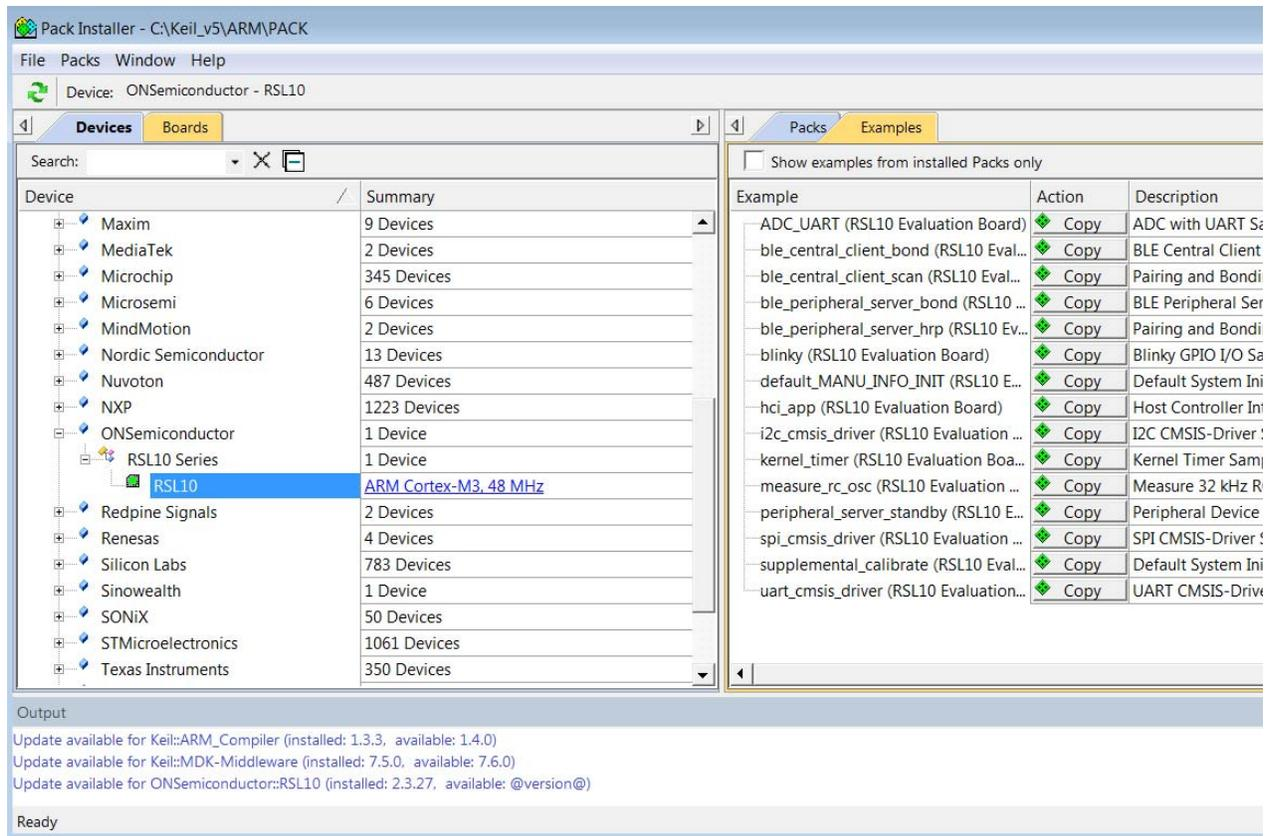

Figure 19. Pack Installer after RSL10 CMSIS-Pack is Installed in the Keil μ Vision IDE
- The RSL10 CMSIS-Pack now appears in the list of installed packs. In the **Devices** tab, if you expand **All Devices > ON Semiconductor > RSL10 Series**, you can see RSL10 listed there. You can manage your installed packs in the **Packs** tab. Expanding **ON Semiconductor > RSL10** makes the **Pack Properties** tab display the details of the RSL10 CMSIS-Pack. Figure 19 illustrates what the Pack Installer perspective looks like after installation.